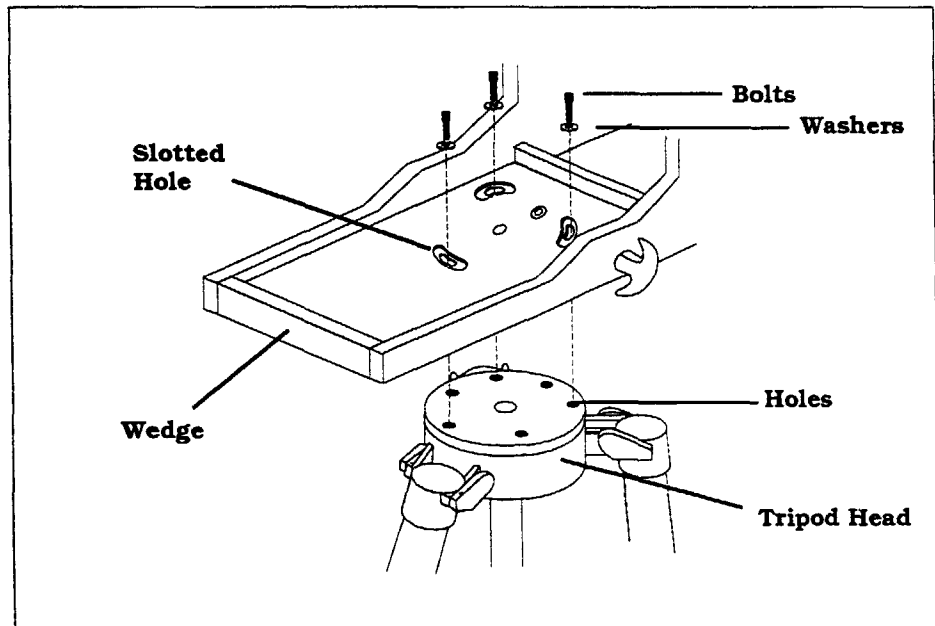

Figure 5-4
2. Thread the three 5/16-18x1" Allen head bolts into the holes until tight (see figure 5-4).